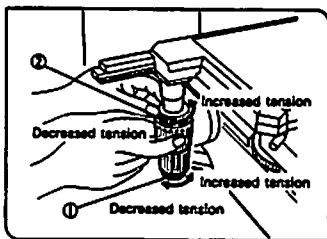

Fig. 41
2 Adjusting the Tension of the X-axis and Y-axis Knobs (Figs. 41, 42)
- The tension of the X-axis and Y-axis knobs can be individually adjusted. Turning the X adjustment knob (1) or the Y adjustment knob (2) counter-clockwise increases tension, and turning them clockwise reduces tension. When adjusting the tension, hold the X-axis and Y-axis knobs to keep them from turning along with the tension adjustment knobs.
- If the tension is adjusted too tight, creaking sounds may be heard during stage travel, and the stage may return back to its original position when stopped. (Fig. 41)